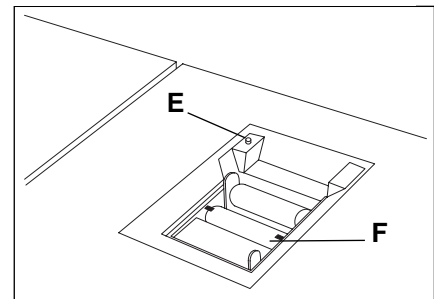

Figure 9.40
7. Press paper feed button (E) to feed paper (Figure 9.40).
8. Make sure new paper is held under knippers (F) (Figure 9.40).